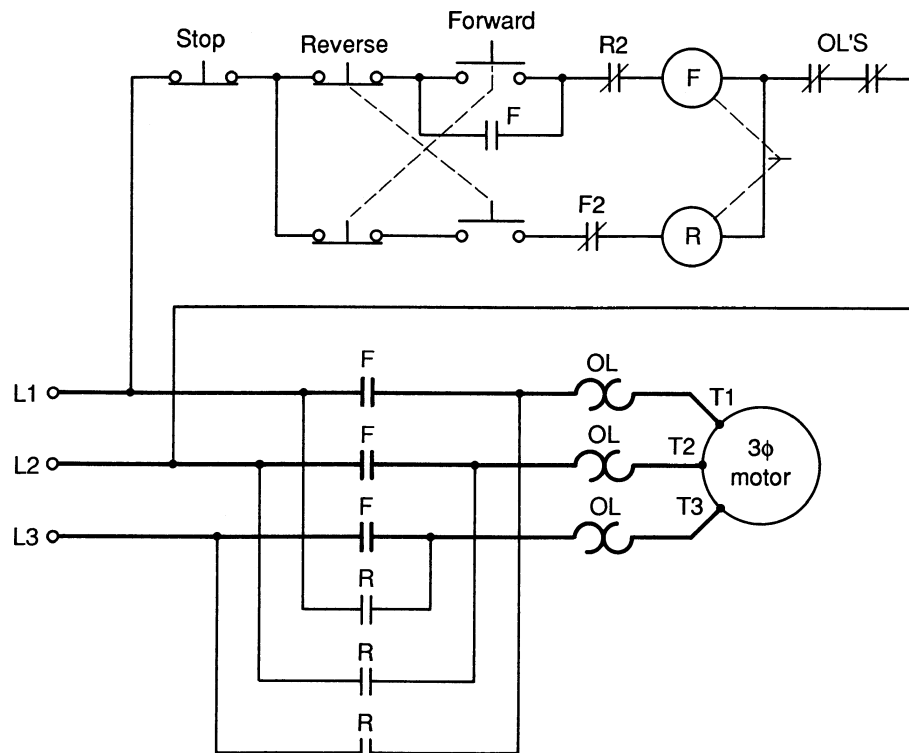

Fig. 5-16 Mechanical, push-button, and auxiliary contact interlocks.
Normally closed (NC) auxiliary contacts on the starter can be used for interlocking. This is done by a separate set of contacts on the reversing starter (Fig. 5-16). The three-phase motor shown has a forward (F) and reverse (R) coil that energize to close contacts in L_1 , L_2 , and L_3 to complete the power to the motor through its overload (OL) contactors, inserted inside the motor windings. The forward pushbutton is depressed. This completes the circuit to the F coil because the R normally closed contacts (R_2) are closed. Once coil F is energized, it holds the F contacts across the forward switch contacts closed, keeping coil F energized. When coil F is energized, it opened contact F_2 , making it impossible for the R coil to energize. Contacts F_2 and R_2 are auxiliary contacts and are sometimes mounted on the outside of the reversing starter. In reversing the single-phase motor, keep in mind that either the run or the start winding leads are reversed, not both.